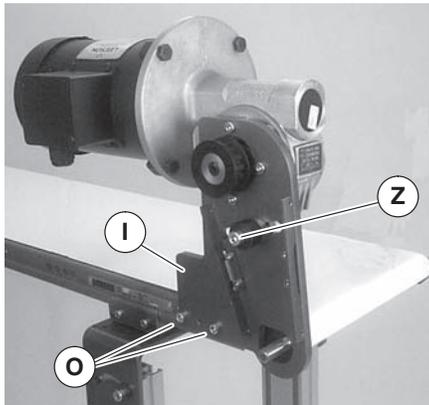
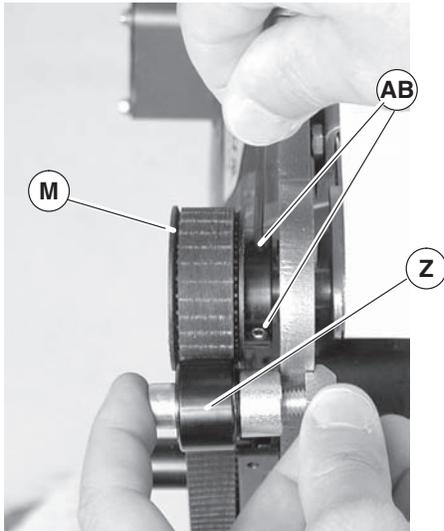

Figure 11
Figure 16
4. Attach mount assembly (Figure 11, item I) with screws (O). Tighten to 80 in-lb (9 Nm). For 4100 conveyors, proceed to step 7.
- Remove cam bearing and spacer (Figure 11, item Z). Place the cam bearing and spacer (Figure 16, item Z) next to the driven pulley (M). Ensure the flanges of the driven pulley are aligned with the cam bearing. Tighten driven pulley set screws (AB). This will allow for proper belt alignment while conveyor is in use. Install cam bearing and spacer (Z).